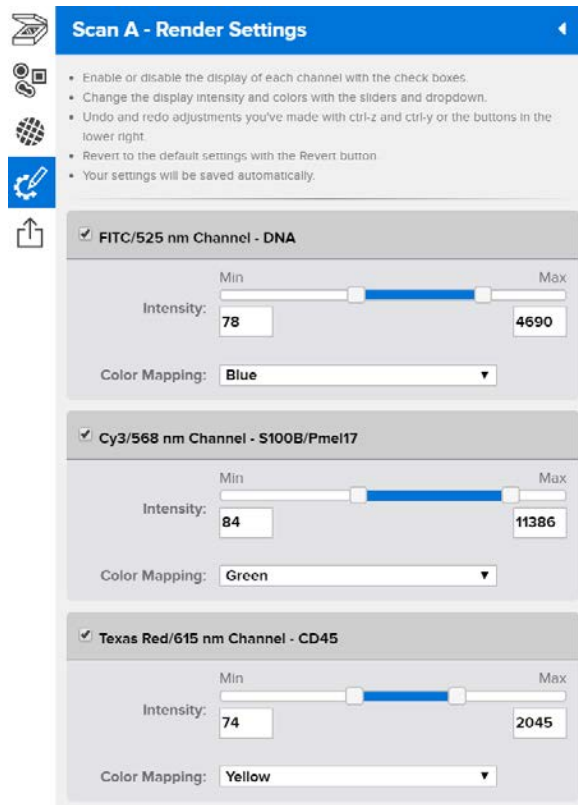

Figure 31: Scan Workspace Render Settings menu
- Open **Render Settings** (see Figure 31). Here, you may: